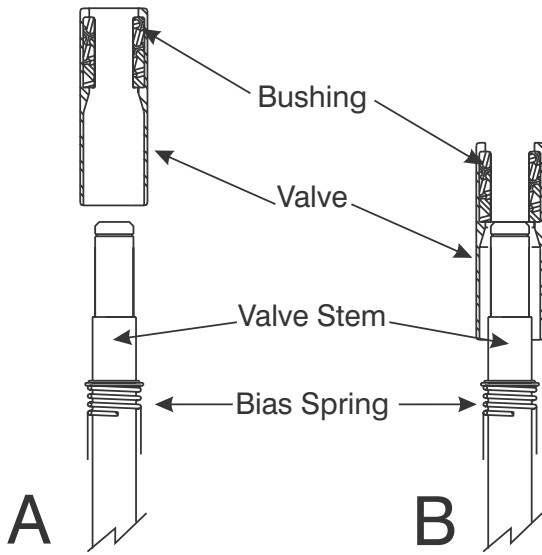

Figure 9-16. Slide Valve onto Valve Stem.
2. Center the assembled Valve and Bushing over the non-threaded end of the Valve Stem as shown in Figure 9-16-A.
3. Slide the Valve onto the Stem until the Stem centers on the internal shoulder of the Valve and just starts into the Bushing, as shown in Figure 9-16-B.